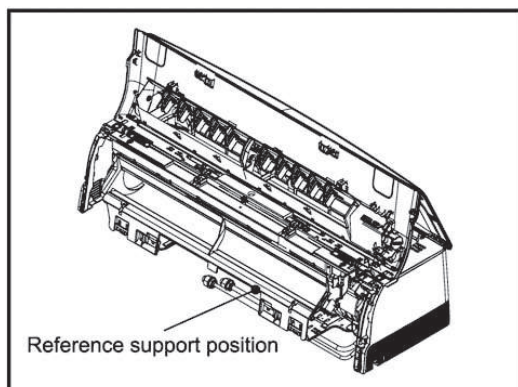
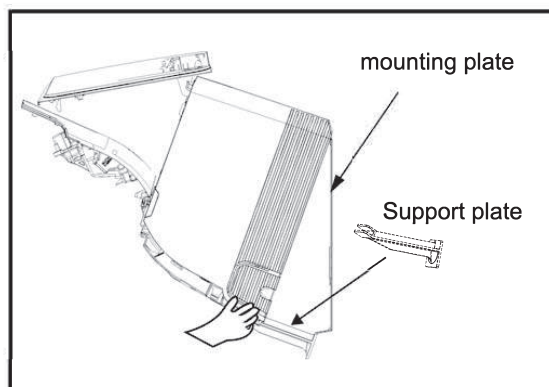

Fig. 13
Fig. 14
- 5) Use the support plate to move the unit step by step to reach the best location. (Fig. 13 and Fig. 14).